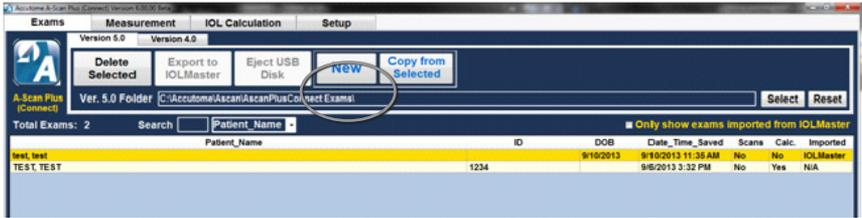

Figure 3.11 - Main Screen Starting New Exam
If launching the A-Scan Plus Connect software from the desktop, click on the icon displayed below. The A-Scan Plus Connect software will display at the Exams screen (Figure 3.11).
1. On the Accutome Exam Screen, click on “New.” Refer to Figure 3.11 below.